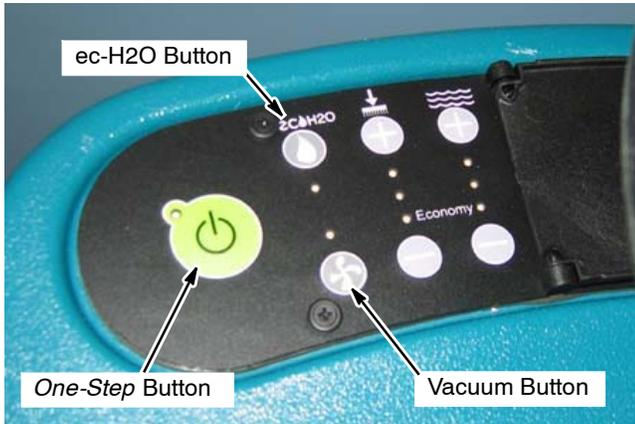

Fig. 38
1. Press and **hold** down the ec-H2O button and Vacuum button (Figure 38).
2. Turn the key switch to the ON (I) position.